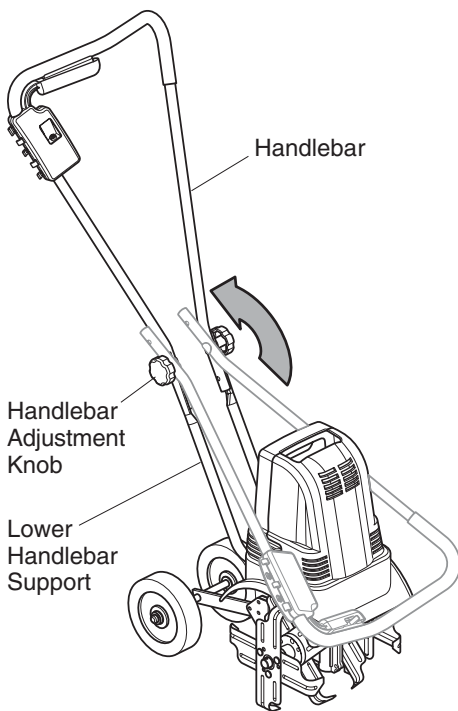

Figure 2 - Unfolding Handlebar
1. Loosen handlebar adjustment knobs. Rotate the handlebar into the operating position (see Figure 2). Do not force handlebar. If there is binding, continue to loosen adjustment knobs. Be careful not to pinch power cord between handlebar and lower handlebar support.